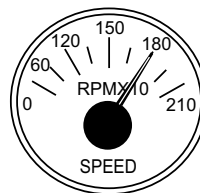

Figure 53. Engine Tachometer Gauge
9. The **tachometer gauge** (Figure 53) will indicate the speed of the engine when the generator is operating. Under normal operating conditions this speed is approximately 1,800 rpm.